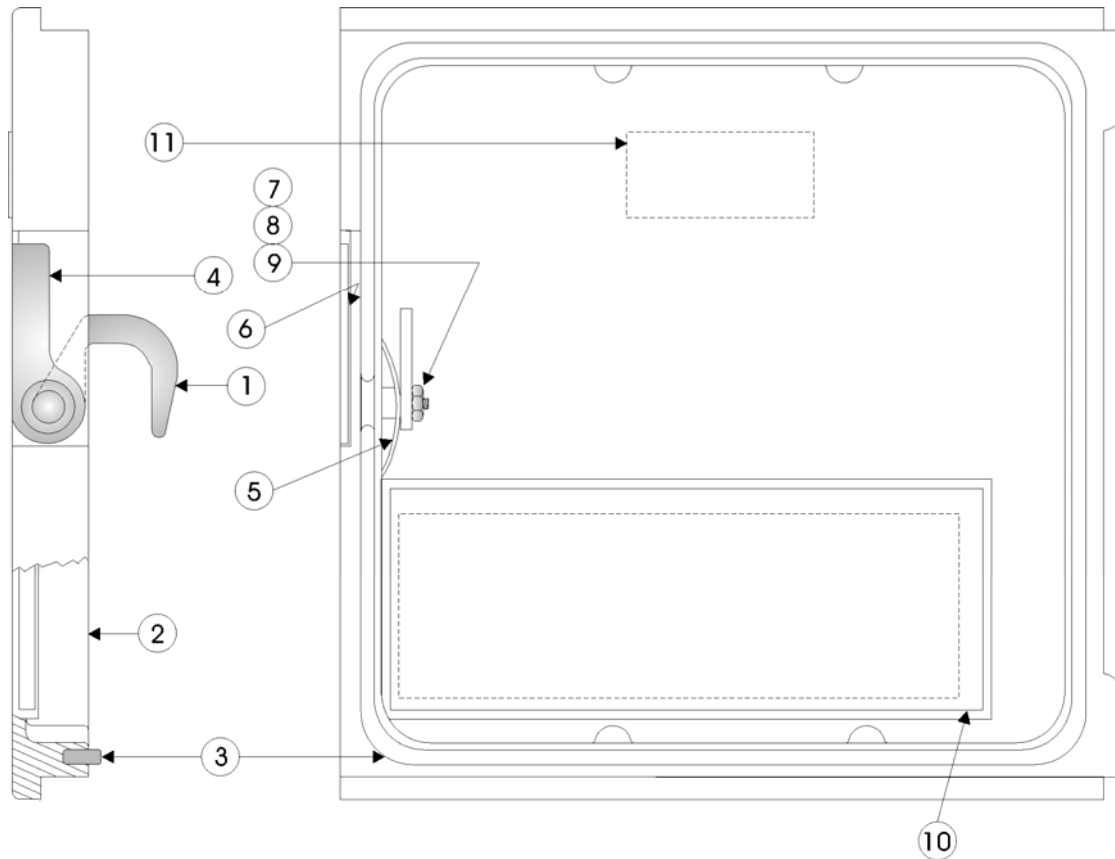

Figure 5-1 - Door Assembly
5.1 DOOR ASSEMBLY - ALL MODELS (see Figure 5-1)